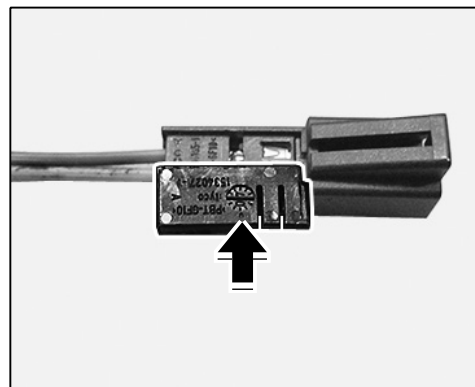

Figure 12
- 2.3.4 Fit secondary lock and lock it ⇒ *Figure 12 -arrow-*.